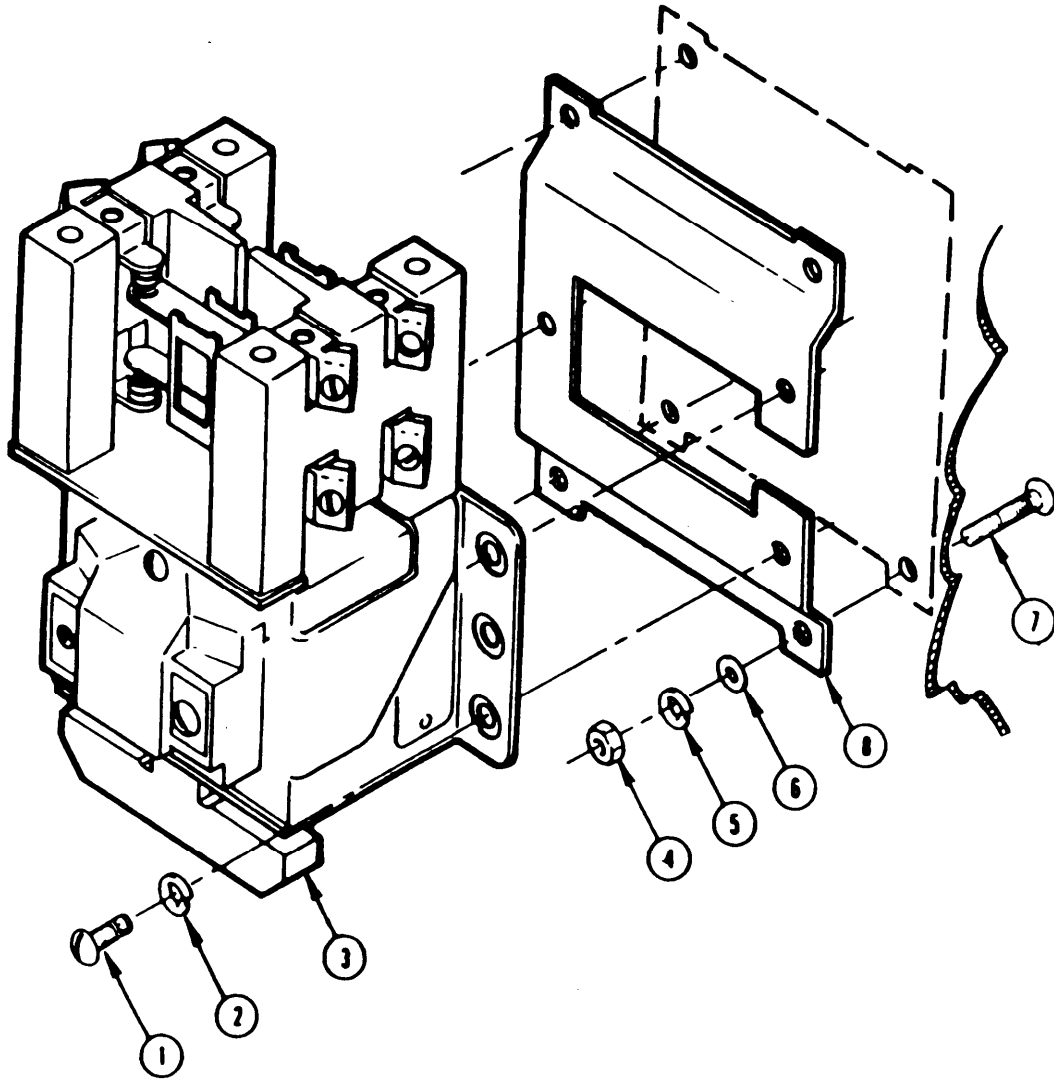

Figure 2-58. Solenoid (Typical)
b. Removal. (Figure 2-58)
- (1) Disconnect and remove all wires from solenoid (3).
- (2) Remove three screws (1), three lockwashers (2), and solenoid (3) from bracket (8).
- (3) Remove solenoid (3) from bracket (8).
- (4) Remove four nuts (4), four lockwashers (5), and four flatwashers (6) from four screws (7).
- (5) Remove four screws (7) and bracket (8).
- (1) Replace all damaged or worn electrical wires.
- (2) Replace all damaged nuts, bolts, screws, and washers.
- (3) Replace damaged or unserviceable solenoid assembly.
- (4) Replace damaged bracket.
- (5) Send damaged solenoid to Direct Support Maintenance for repair.
e. Installation. (Figure 2-58)
- (1) Install four screws (7) on bracket (8).
- (2) Install four flatwashers (6), four lowashers (5), and four nuts (4) on screws (7).
- (3) Hold solenoid (3) in place on bracket (8).
- (4) Install three screws (1), three lockwashers (2), and solenoid (3) on bracket (8).